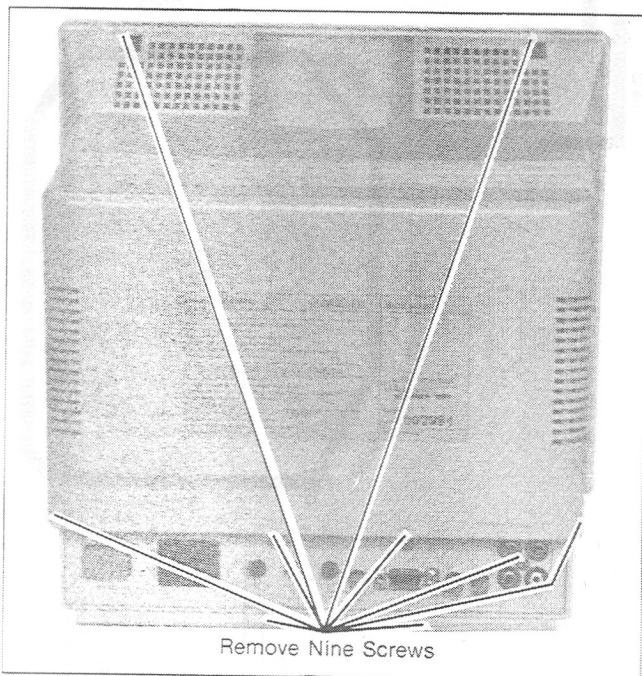

Fig. 3
## CHASSIS REMOVAL (SEE FIGS. 3/4)
1. Remove the nine screws securing the rear cover of the cabinet. (See Fig. 3)